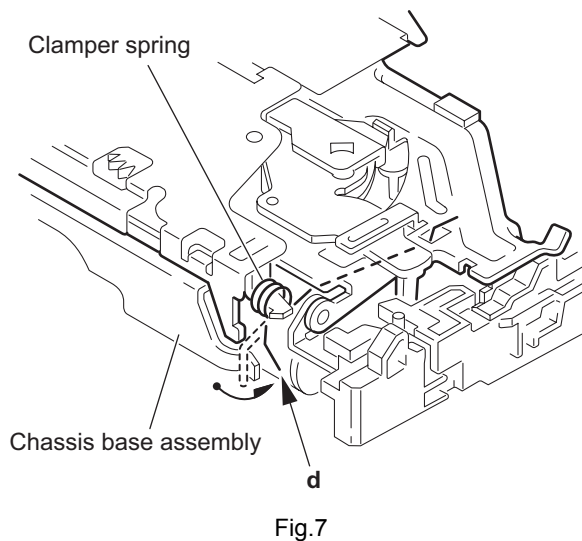

Fig.7
- (2) Release the part **d** of the clamper spring from the bending part of the chassis base assembly. (See Fig.7.)
- (3) Move the part **d** of the clamper spring to the outside of the bending part of the chassis base assembly. (See Fig.7.)